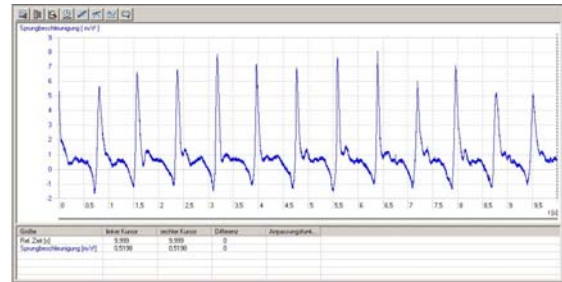

Fig. 1 Typical acceleration behaviour at the ankle of a skipping person, recorded with the 3B NETlab™ (U11310)
- Simultaneously start the recording of an experimental data curve in 3B NETlab™ (Fig. 1).
In Figure 1 it can be seen that, in addition to the skipping acceleration signal, there is a constant gravitational acceleration of 9.81 m/s2, resulting in a background value of 1g.